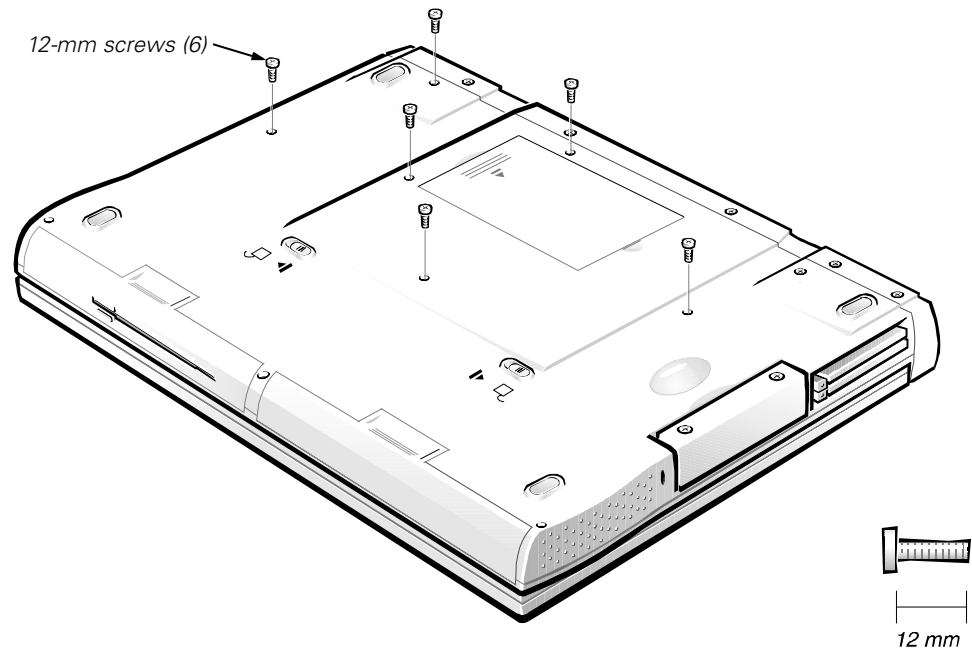

Figure 9. Keyboard Assembly Screws Removal
1. **Close the display assembly, and turn the computer upside down on a flat work surface (see Figure 9).**